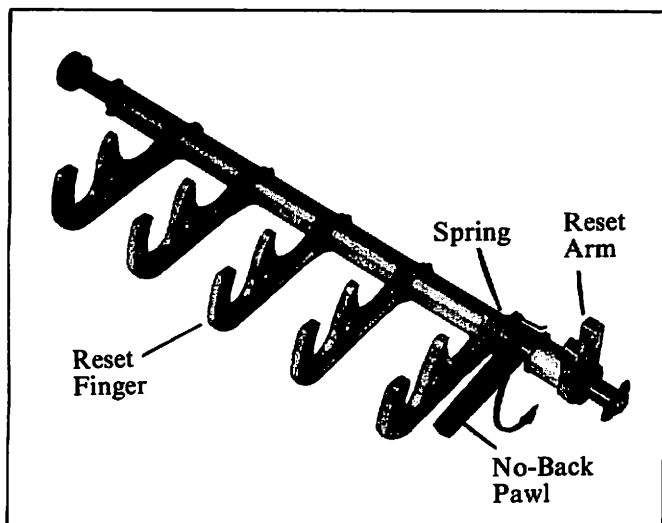

Figure 20. Reset Finger Shaft Group Preparation For Installation.
- a. Rotate no-back pawl so that spring puts pawl under tension. Slip an elastic band over the reset fingers and pawl to hold pawl in position. See Figure 20.